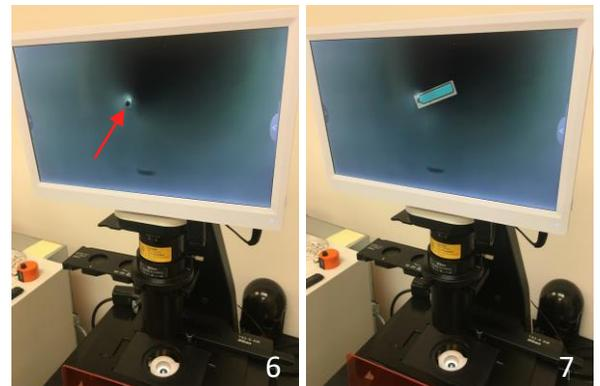

Figure 5. Determining the release needle position within the microscope field of view.
6. To determine the position of needle release within the microscope field of view, slowly rotate the Poke Height knob clockwise while monitoring the microscope field of view (in trans-illumination brightfield mode) through the eyepiece or camera monitor, until a small dot – the tip of the needle – comes into the field of view (**Figure 5**).
7. Mark on the monitor (or make note of within the ocular reticle grid) the needle release position to indicate the CellRaft release site (**Figure 5**). Five Post-It® Arrow Flags are generally provided in the kit for this purpose. During subsequent CellRaft release steps, CellRafts will need to be aligned with this position in order to dislodge them from the CytoSort™ Array.